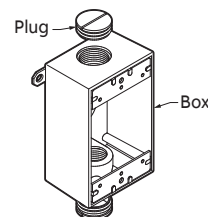

Figure 1
1. Before mounting box, close any unused openings with round threaded plugs. Coat threads liberally with silicone sealing compound. Insert into unused openings and tighten firmly (Figure 1).